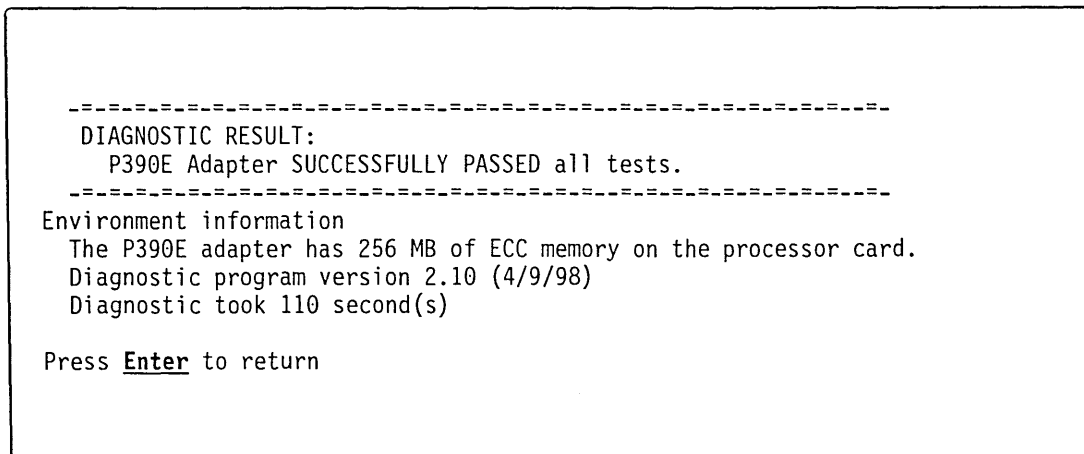

Figure 2. P/390 Diagnostic Screen
9. The diagnostic completes with a screen similar to Figure 2. If the tests were successful, the P/390 is ready to IPL the S/390 operating system. If the test found a problem, the diagnostic indicates a repair action.